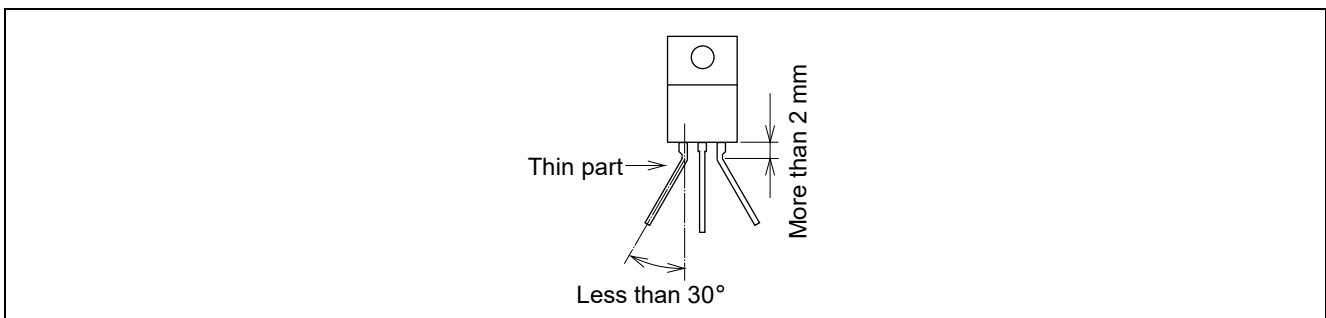

Figure 15 Bending leads in lateral direction
- (b) When bending the lead in the lateral direction, bend it at a thin part of the lead or at a point at least 2 mm away from the main body and its angle should be less than 30 degrees as shown in the Figure 15.